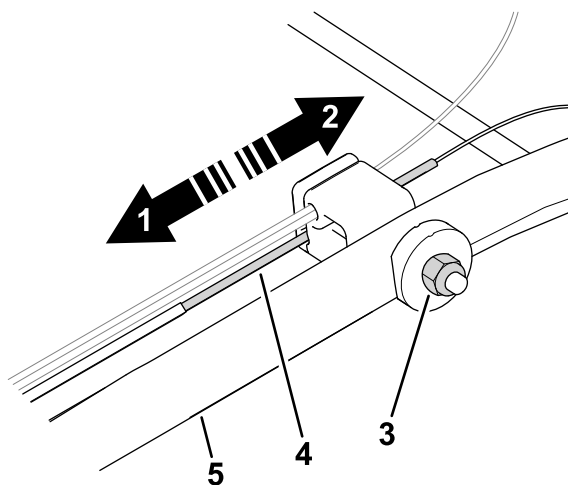

Figure 25
1. Turn the adjustment nut counterclockwise to loosen the cable adjustment (Figure 25).
2. Adjust the tension on the cable (Figure 25) by pulling it back or pushing it forward and holding that position.